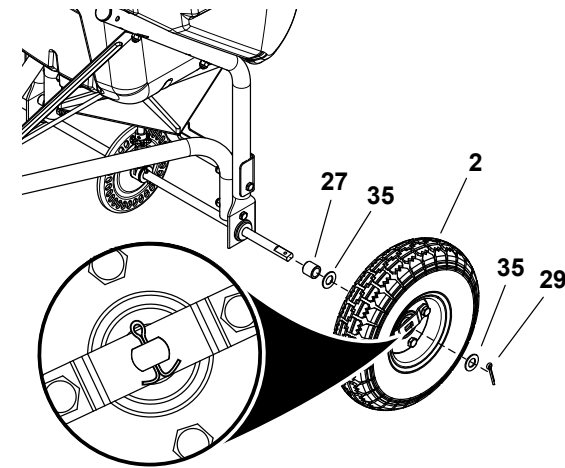

Figure 13
STEP 14: (SEE FIGURE 13)
- Slide a spacer (27), a 1/2" washer (35), and the drive wheel (2) onto the square end of the axle.
- Slide a 1/2" washer (35) over the axle and secure the wheel with a 1/8 x 1-1/4" cotter pin (29), spreading the ends.